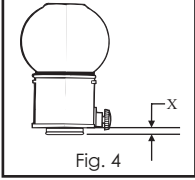
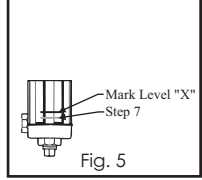
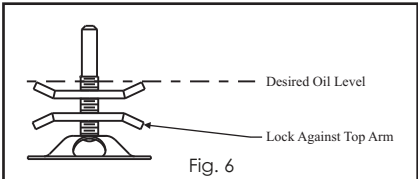

Fig. 4
Fig. 5
Fig. 6
- Measure the distance between Opto-Matic Oiler bottle and casting edge (Fig 4). Mark this distance above the original line made in step 7 on the outside of the Opto-Matic lower casting (Fig. 5). Now the bottom of the upper casting can be used as an indicator of oil level.
- Set oil level adjuster (**Opto Laser Level Tool** can be used). Thread top adjuster arm to desired level (Fig 6). Place inside lower casting. Place reservoir assembly over lower casting. Verify the bottom of the lower casting is at the oil level mark on the outside of the lower casting made in step 8 (Fig 5). You may need to adjust the upper arm on the oil level adjuster assembly to obtain the correct oil level.
- Once the correct oil level is obtained, lock the lower level adjuster arm against the top arm (Fig 6). Place level adjuster assembly in lower casting.